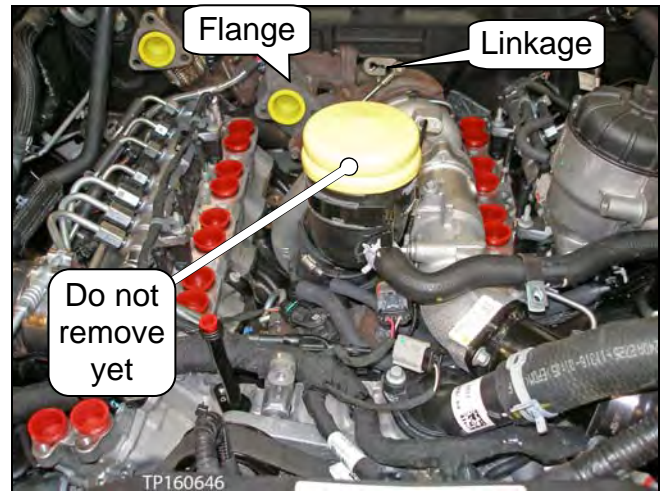

Figure 80
24. Remove all plugs shown in Figure 80 now.